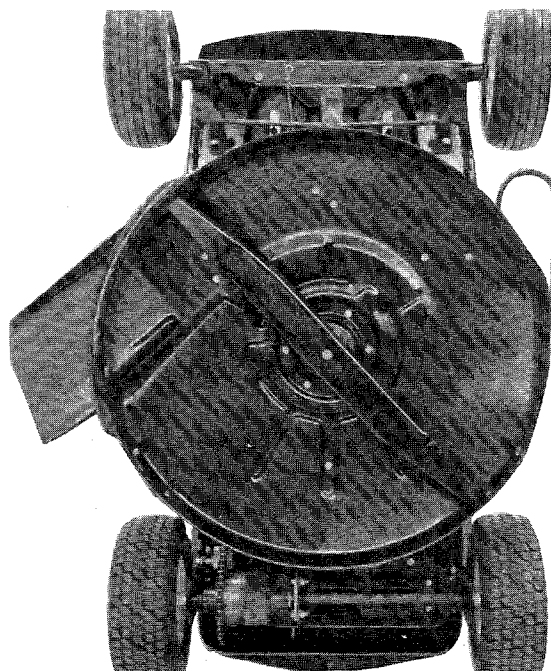

FIGURE 31.
4. Tip the rider up on its back wheels. See figure 31. Tipping unit up against a wall is recommended.